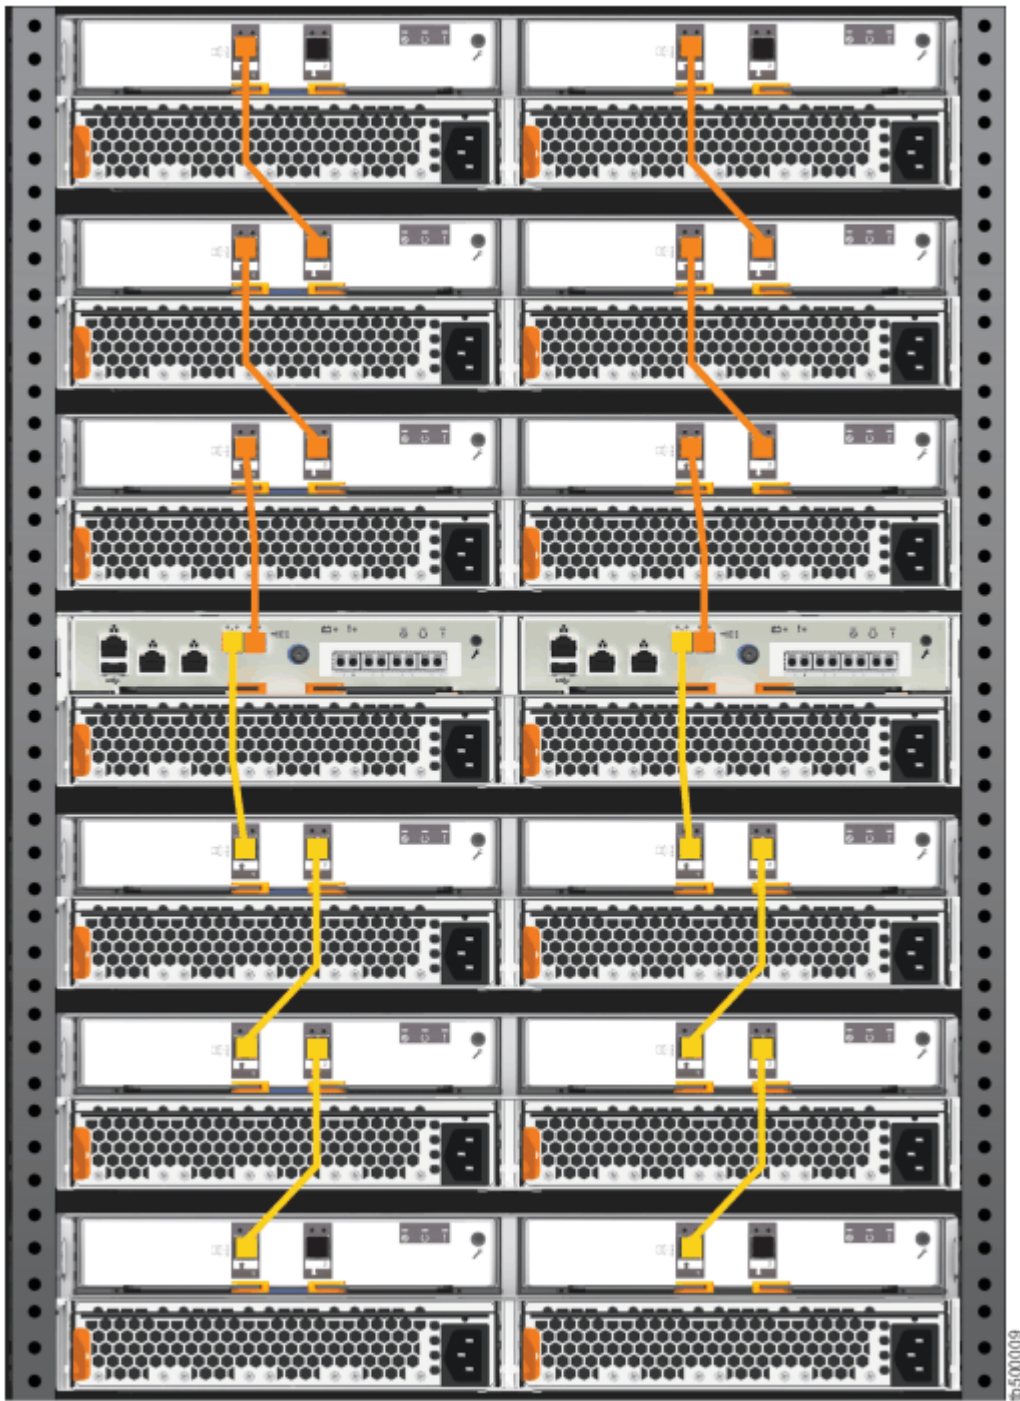

Figure 20. Connecting the SAS cables to a Storwize V5030 system
Figure 20 on page 23 shows how to connect SAS cables on a Storwize V5030 or Storwize V5030F system. In this figure, two expansion chains are connected to the Storwize V5030 system.
2. To add a second expansion chain to the Storwize V5030 control enclosure, use the supplied SAS cables to connect the control enclosure to the expansion enclosure at rack position 2, as shown in Figure 20 on page 23.
3. If more expansion enclosures are installed, connect each one to the previous expansion enclosure in a chain; use two Mini SAS HD to Mini SAS HD cables, as shown in Figure 20 on page 23.